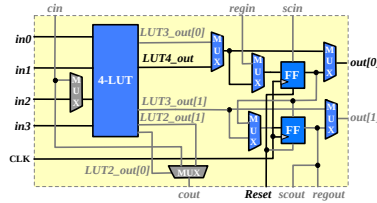

Fig. 4.6: Resource usage of the logic element operating in LUT4 + FF mode (Grey blocks and lines are unused resources).
The logic element can operate in the Look-Up Table (LUT) + Flip-flop (FF) mode as many classical FPGA logic elements. As depicted in Fig. 4.6, the fracturable LUT will operate as a single-output 4-input LUT and the upper FF is used to implemented sequential logic.